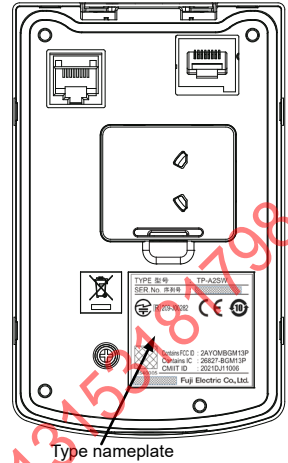

Figure 1.1 Back of Multi-function Keypad
- (1) The package contains a multi-function keypad (TP-A2SW) and the Instruction Manual (Simplified Edition).
- (2) There have been no problems during transportation. In particular, no parts are damaged or have fallen out of place nor are there any dents on the body.
- (3) The multi-function keypad has a type nameplate (TP-A2SW) on the back as shown in Figure 1.1.